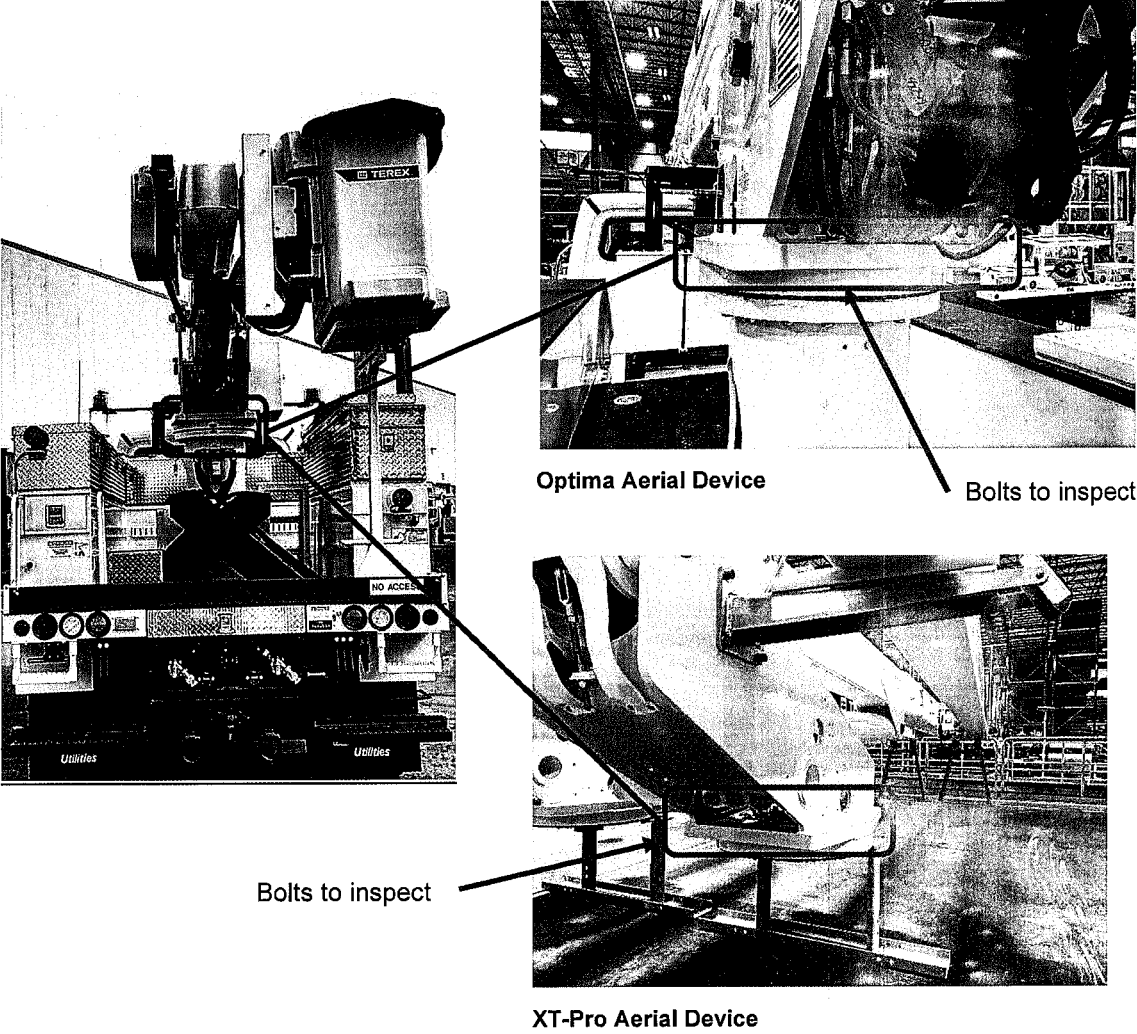

Figure 1. Turntable to Rotation Bearing Bolts
3. Perform a torque check on the turntable to rotation bearing bolts, see Figure 1, following the procedure in the Maintenance Manual and PA1016. The torque for each unit is in the Quick Reference section of the Maintenance Manual and shown below: